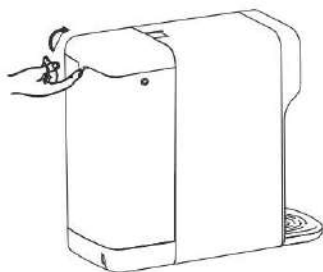
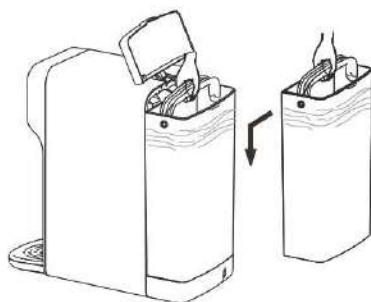

Fig. 1
Fig. 2
2. Open the water tank cover. (Fig.1) Lift the tank by the handle, then fill tank with water up to the MAX level. Place tank back into the dispenser and replace cover. (Fig.2)